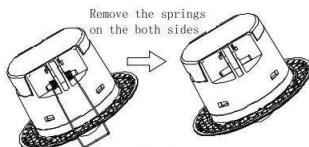

Fig. 6
(6) Next, take out the sensor and remove the springs on the both sides. As shown in Fig. 6.